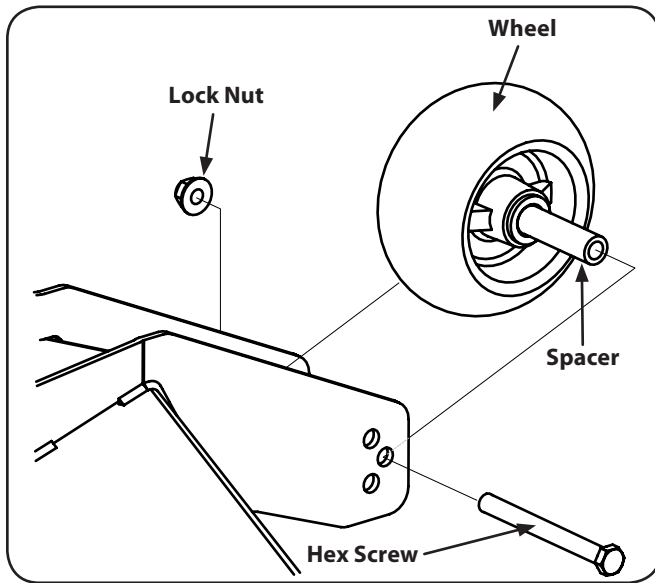

Figure 6-9
- Remove the lock nut securing one of the front gauge wheel hex screws to the deck. Remove the gauge wheel, hex screw and spacer. See Figure 6-9.